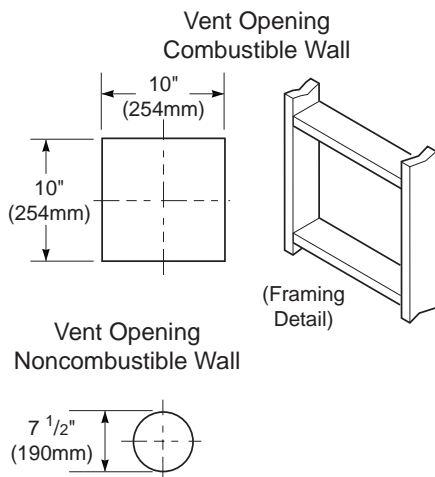

Figure 14 - Vent Opening Requirements
3. Attach vent pipe assembly to the fireplace. Set fireplace in front of its permanent location to insure minimum clearances. Mark the wall for a 10" square hole (for noncombustible material such as masonry block or concrete, a 7 1/2" diameter hole is acceptable). See Figure 14. The center of the hole should line up with the centerline of the horizontal rigid vent pipe. Cut a 10"x10" (254mm x 254mm) square hole through combustible exterior wall (7 1/2" [190mm] diameter hole if noncombustible). Frame as necessary (see Figure 14).
1. Cut a 10" square hole in the ceiling using the locating hole as a center point. The opening should be framed to 10"x10" (254mm x 254mm) inside dimensions, as shown in Figure 14 on page 8 using framing lumber the same size as the ceiling joists. If the area above the ceiling is an insulated ceiling or a room, nail firestop from the top side. This prevents loose insulation from falling into the required clearance space. Otherwise, install firestop below the framed hole. The firestop should be installed with a minimum of three nails per side (see Figure 21).
3. Cut a hole in the roof using the locating hole as a center point. (Cover any exposed open vent pipes before cutting hole in roof.) The 10"x10" hole must be measured on the horizontal; actual length may be larger depending on the pitch of the roof. There must be a 1" clearance from the vent pipe to combustible materials. Frame the opening as shown in Figure 14 on page 8.